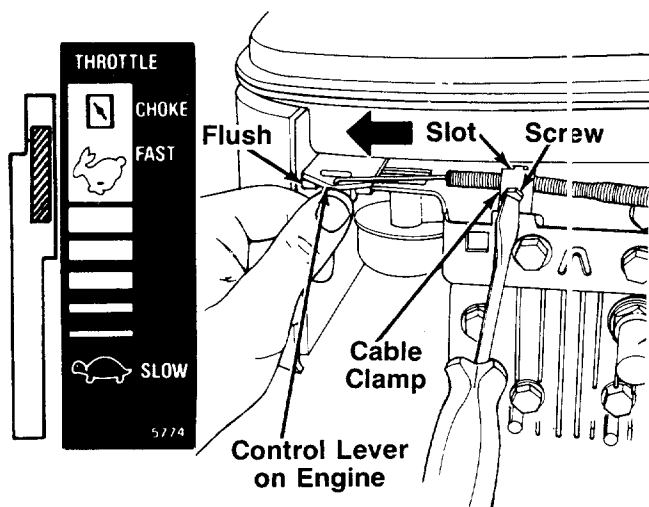

FIGURE 6B.—Models 286R and 289R
1. Push the throttle control lever on the handle all the way forward to **CHOKE**, then back it off **two "clicks"** (approximately 5/16"). See figure 6B.
2. The throttle control cable is attached to the upper handle. Route the throttle control cable under the lower handle, inside the handle mounting bracket and underneath the drive cover. Hook the "Z" end of the throttle control cable into the hole in the control lever on the engine. See figure 6B.
3. Using a 5/16" wrench or nutdriver, remove the screw on the cable clamp shown in figure 6B. Slip the control cable under the clamp. Replace the screw (cable should be above the screw), but do not tighten (cable must still move freely beneath the clamp). Make certain the tab on the cable clamp is seated into the slot on the engine.
4. Push the control lever on the engine as far toward the **outside** of the engine as it will go. The edge of the control lever should be flush with the bracket on the engine. See figure 6B. Hold the control lever in this position as you tighten the screw on the cable clamp to secure the throttle cable.